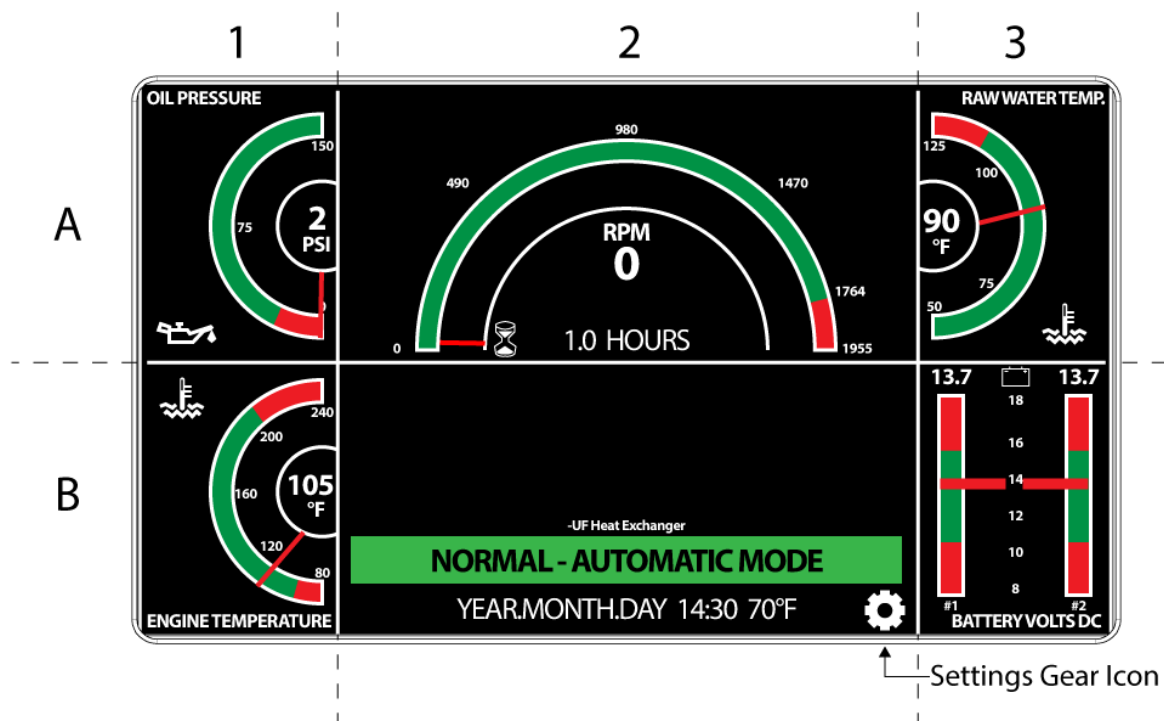
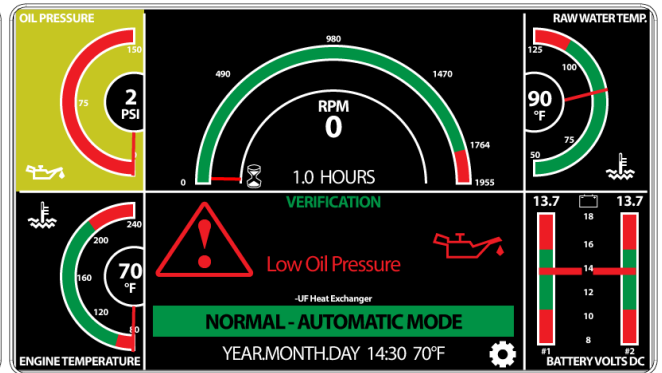

Figure 3-2
Figure 3-6
The **Home Screen** (Figure 3-2) is divided into six sectors.
- 3.2.1. The **Oil Pressure Gauge** is in sector A1 (Figure 3-2). The numerical value of the engine oil pressure is displayed in PSI, BAR or kPa. A corresponding digital needle gauge will display the oil pressure value. If the digital needle location is in the green, the oil pressure is satisfactory. If the digital needle location is in the red, the oil pressure is unsatisfactory.
- 3.2.2. The **Tachometer** and **Hour Meter** are in sector A2 (Figure 3-2). The numerical value of the engine speed is displayed in the center of A2. A corresponding digital needle gauge will display the engine speed. The engine run hours are displayed in the bottom-center of sector A2. If the engine shuts down due to over speed or over speed verification, an **overspeed reset button** will appear in the top-left corner of sector A2.
- 3.2.3. The **Raw Water Temperature Gauge** is in sector A3 (*Figure 3-2*). The numerical value of the raw water temperature is displayed in Fahrenheit or Celsius. A corresponding digital needle gauge will display the raw water temperature. If the digital needle location is in the green, the raw water temperature is satisfactory. If the digital needle location is in the red, the raw water temperature is unsatisfactory.
- 3.2.4. The **Engine Temperature Gauge** is in sector B1 (*Figure 3-2*). The numerical value of the engine (coolant) temperature is displayed in Fahrenheit or Celsius. A corresponding digital needle gauge will display the engine temperature. If the digital needle location is in the green, the engine temperature is satisfactory. If the digital needle location is in the red, the engine temperature is unsatisfactory.
- 3.2.5. The **Engine Status** is in sector B2 (*Figure 3-2*). The date, time and ambient air temperature is displayed on the bottom of sector B2. The **Engine Mode Status Bar** is located just above the date and time. A green bar displaying "NORMAL - AUTOMATIC MODE" will be shown when the engine mode selector switch is in the automatic mode position. A yellow bar displaying "WARNING - MANUAL MODE" will be shown when the engine mode selector switch is in the manual mode position. The **Engine Cooling Configuration** is displayed just above the engine mode status bar. **Alarm Notifications** will be displayed towards the top of sector B2. (Example: Low Oil Pressure Alarm *Figure 3-6*). The **Gear Icon** is in the bottom right corner of sector B2. Pressing the gear icon will navigate to the settings menu screen. Refer to section 3.3 for more details.
- 3.2.6. The **Battery Volt Gauges** are in sector B3 (*Figure 3-2*). The engine battery voltage readings will be displayed in either 12 or 24 vdc. The horizontal lines display the battery volts and the vertical bar graphs display satisfactory and unsatisfactory voltage levels. The battery voltage reading numerical value is displayed above the vertical bar graphs.